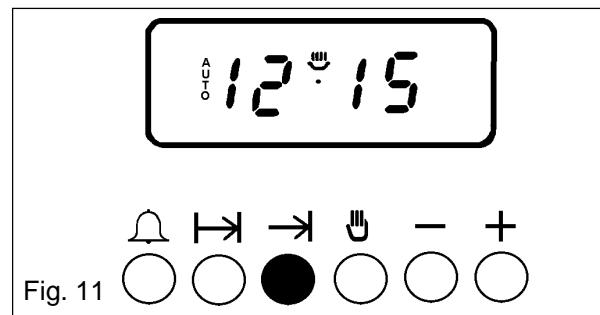

Fig. 11
- vi) To check the stop time during the cooking period, simply press the stop time button (→) and the stop time will be displayed, as Fig. 11.